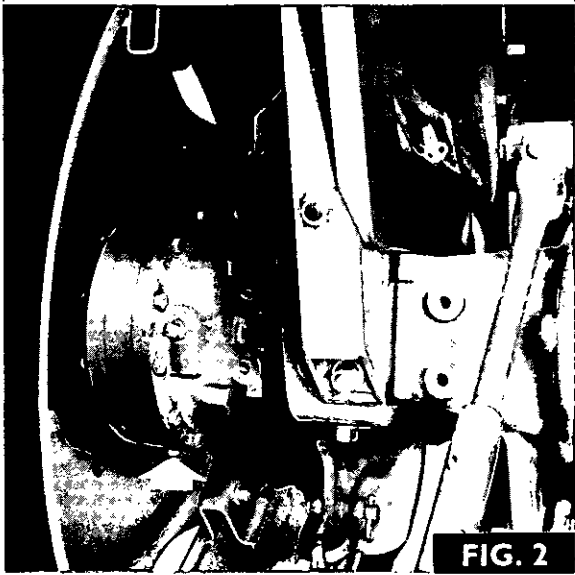

FIG. 2
4. Fig. 2. Drain the oil from the rear axle epicyclic unit.
5. Scribe a mark on the outer housing (12) ring gear (16) and trumpet housing to facilitate reassembly.
6. Remove the nuts and bolts (2) securing the epicyclic unit to the trumpet housing.
7. Withdraw the epicyclic unit, complete with the ring gear (16) from the trumpet housing. Do not withdraw the axle shaft (21).
8. Remove the ring gear (16) and the two cork gaskets (15).